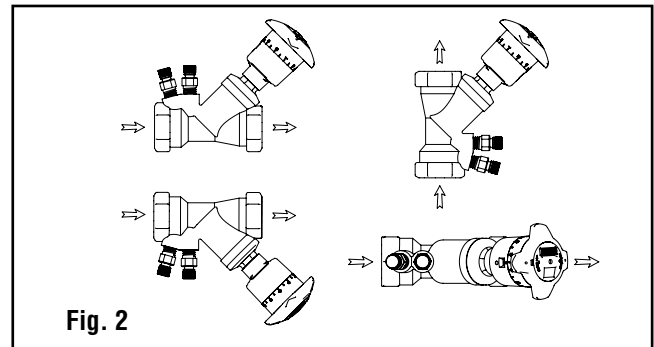

Fig. 2
5. GBV's may be installed in horizontal or vertical piping (as illustrated in Fig. 2). Provisions must be made for easy access to the probe metering ports (PMP's), reading scale, and memory stop.